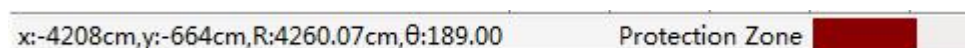

Fig 2.5.28 Status display of protective zone
- Click the icon  to edit protective zone, the status bar is displayed as shown in Fig.2.5.28.